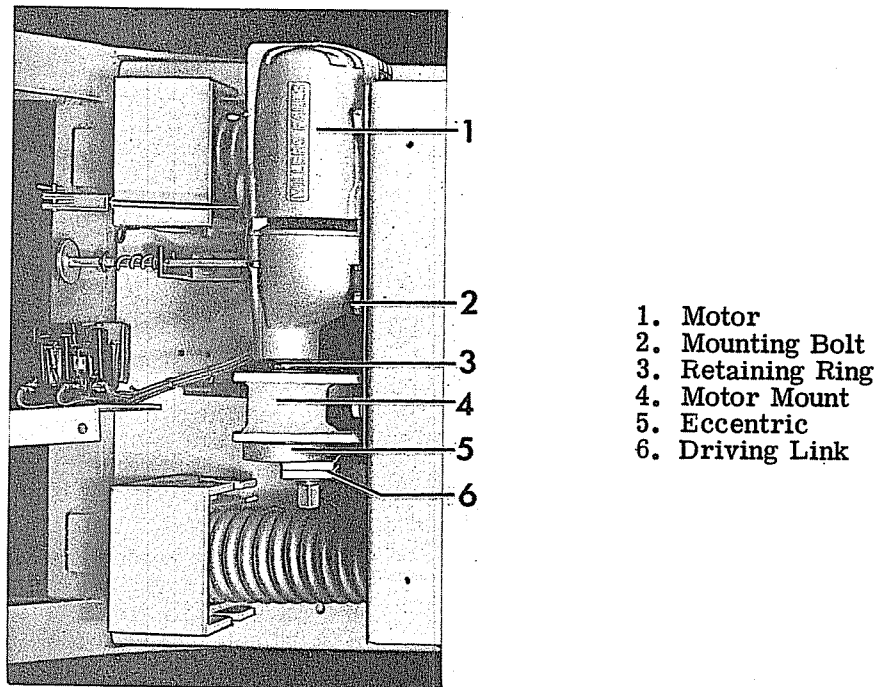

Fig. 7 (8037378) Driving Elements)
The mechanism has a high speed gear motor (1) Figure 7, that compresses a set of closing springs through the action of an eccentric, ratchet, and pawl assembly. The rotary action of the motor is converted to a straight stroke through the eccentric (5), and a lever (6) that carries a spring loaded driving pawl.